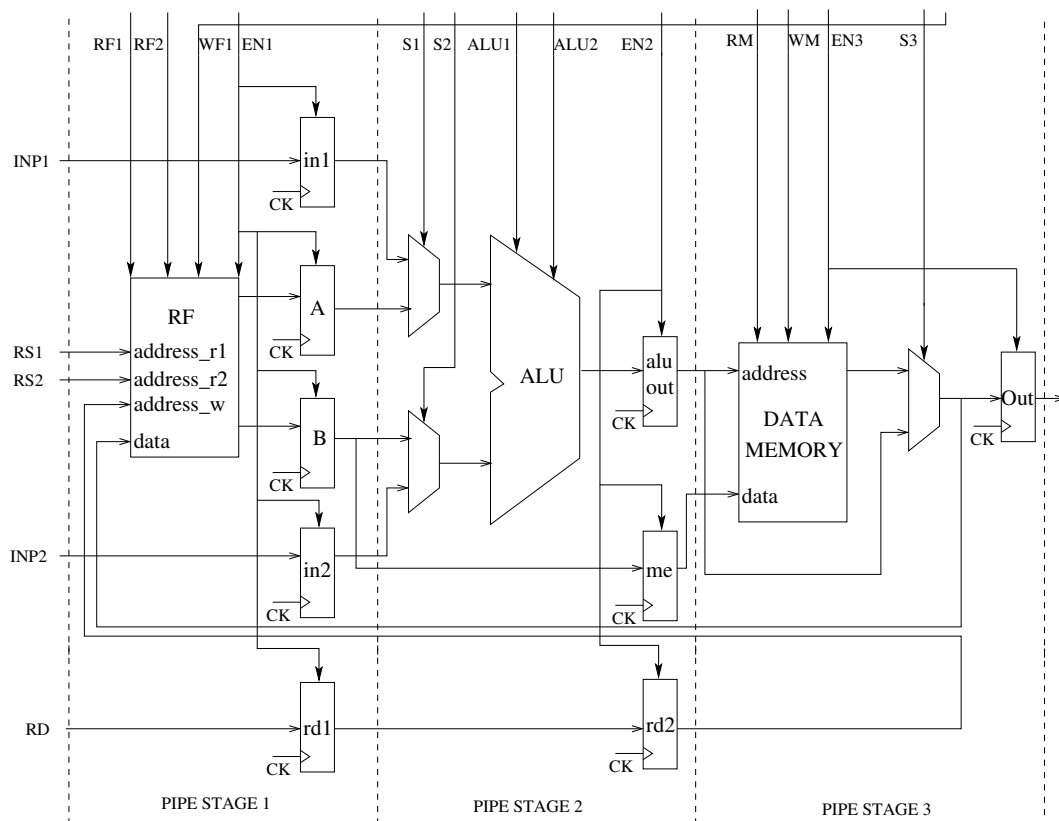

Figure 4.1: Schematic of a simplified implementation of a DLX processor.
The DLX processor (*see cap.2 and 3 of Hennessy-Patterson*) is a simple *load-store* architecture with a set of 32 General Purpose Registers (*GPRs*), each with a parallelism of 32-bits. A slightly simplified version of its datapath is shown in Figure 4.1.
- In the third pipeline stage, a *Memory* is used to load/store data. It is a simplified Register File with one port for reading and one for writing. The address is generated by the ALU, while the input data come from the delayed output of the register B (*see Figure 4.1*). A *multiplexer* is considered to select the data that will be written into the Register File belonging to the first stage, and which is located between the output of the Memory and the DLX output. *One register* is used for pipelining. *Four control signals* are used in this pipe stage: